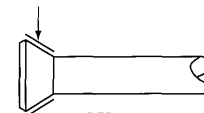

Fig. 22
- When connecting the flare nut, apply ester oil or ether oil to the flare section (both inside and outside), and spin 3-4 times before screwing in. (Refer to Fig. 22)